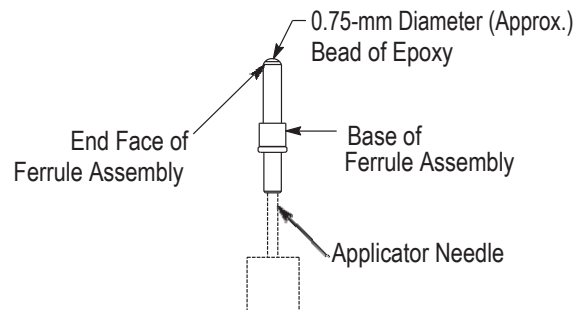

Figure 6
14. Hold the ferrule assembly vertically, and insert the needle tip into the base of the ferrule assembly until it is against the back (end closest to the base) of the ferrule assembly. Refer to Figure 6.